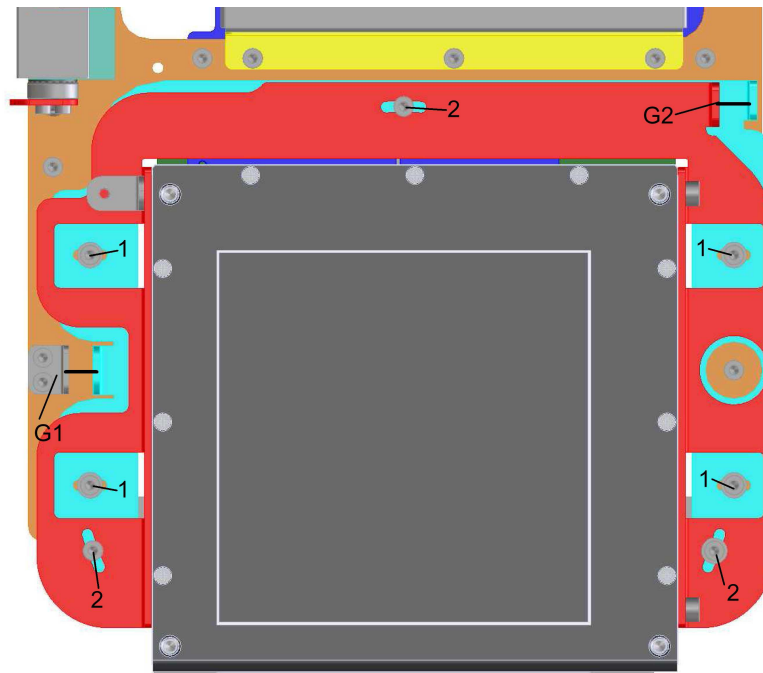

Figure 9-11
- In case the image is not parallel to the window, it is possible to move the digital sensor, aging on the screws "2" (Figure 9-11).
- In case the reference pins are not positioned in the center, it is necessary to move the digital sensor (screws "1" Figure 9-11).